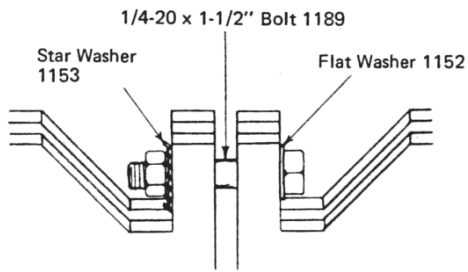

FIGURE 7
Rotate the guy anchor assemblies so that by eye sight, the holes in the anchor pins line up with all the 3/8" holes in the guy fasteners. Lock this anchor assembly to the boom the same as the hub assemblies in Step 17 (FIG. 7). Fig. 27 shows the front guy anchor assembly. The rear guy anchor assembly follows the same procedure.
b) Line up the fiberglass arms with the element arms and secure the hub to the boom as in Step 17 and shown in FIG. 7.